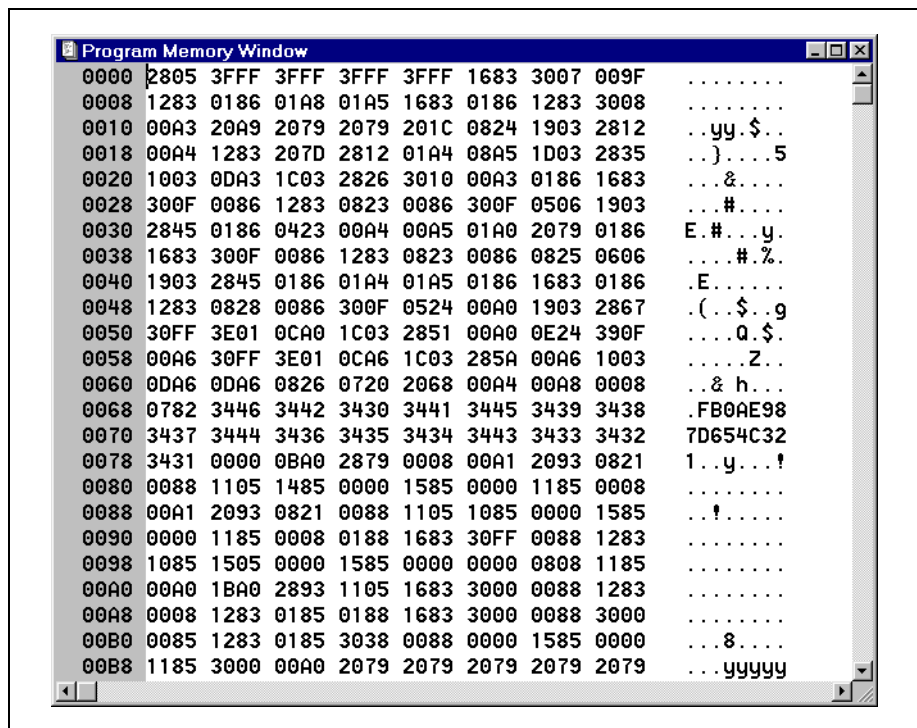

Figure 7.61: Program Memory Window – Hex Code Display
- **Hex Code Display** – This displays the program memory as hex data. This option is most useful when using a device programmer (Figure 7.61).